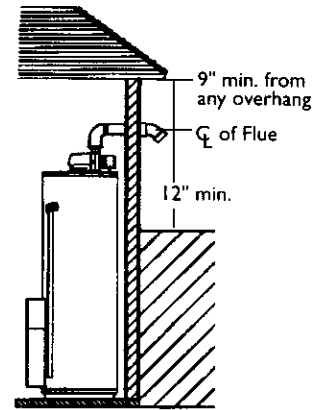

Figure 2
- 12" minimum from the ground, 9" ceiling overhangs. Figure 2.